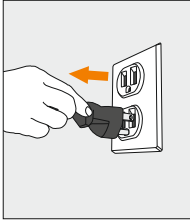

Figure 28
1. Unplug (Figure 28) and approach the cooler from the front.